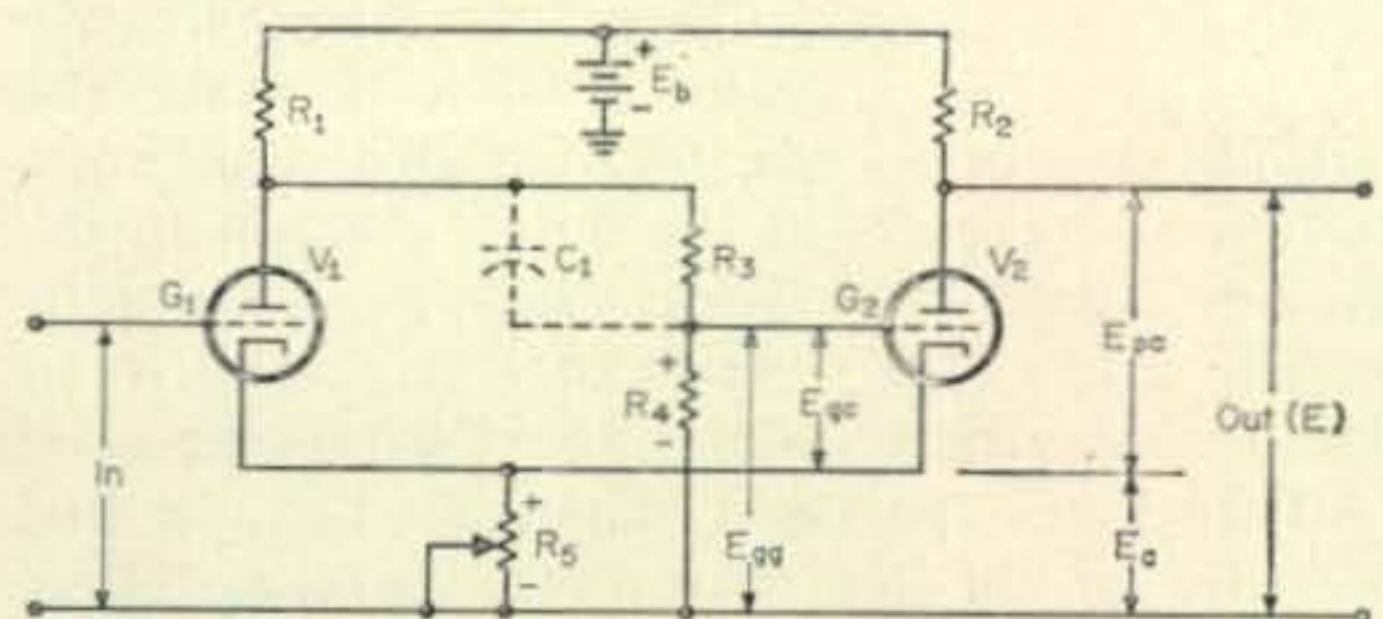
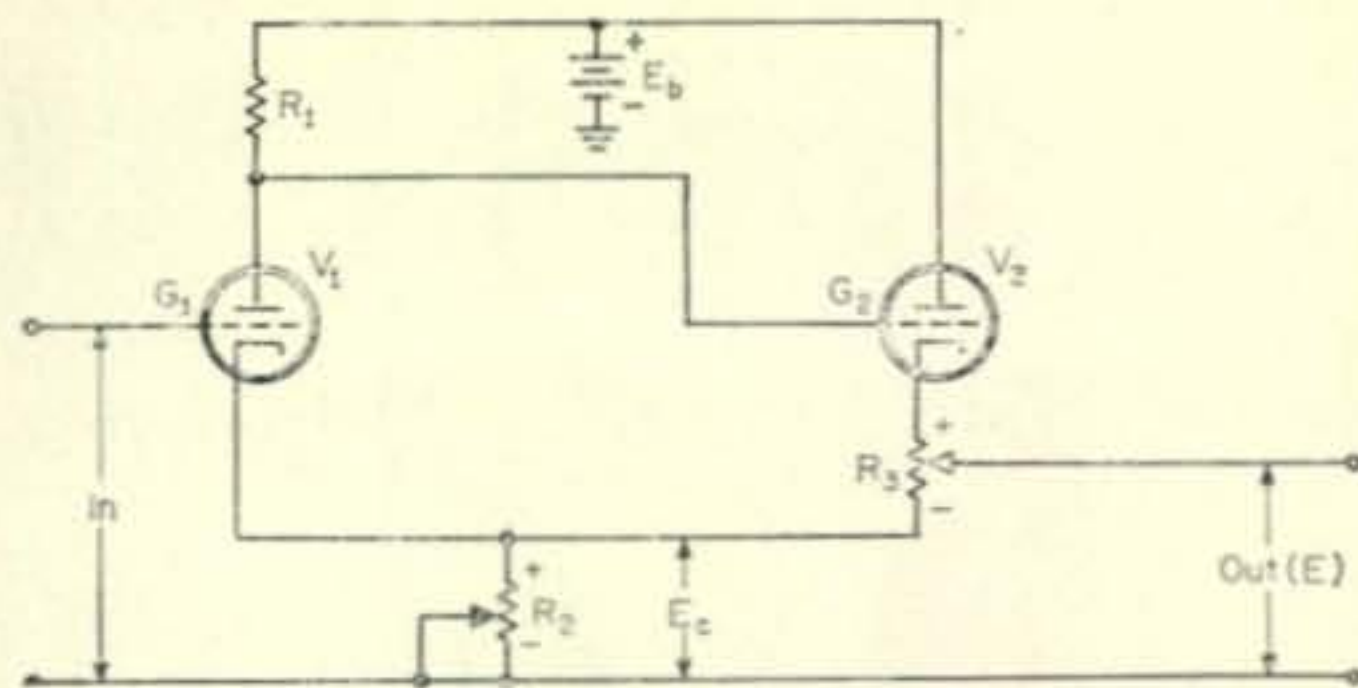

Fig. 96—A typical Schmitt trigger circuit. See text for operation. There are others depending upon circuit requirements.
Fig. 98—A Schmitt trigger circuit. Note the similarity of this to the Schmitt trigger circuit shown in fig. 95.
Essentially the Schmitt trigger circuit is a two-stage pulse-shaping circuit whose output has a rectangular waveform. The versatile Schmitt trigger circuit has many other applications, several of which can be combined in one two-stage circuit. The circuit is useful in squaring non-rectangular or sinusoidal waves, detection of d.c. levels, signal level shifting and wave-form restoration. A typical Schmitt trigger circuit is shown in fig. 96. There are other variations of this circuit, some of which will be covered in this discussion.
(through resistor R_3) is used in the Schmitt trigger circuit (fig. 96). Regeneration in the Schmitt trigger circuit is through the common and *unbypassed* cathode resistor R_5 to ground. Regeneration of the monostable circuit (fig. 93) is through plate-to-grid coupling capacitors C_1 and C_2 . The Schmitt trigger changes state the instant a triggering pulse is applied to its input and so does the monostable.
At this point they begin to differ. The Schmitt trigger state stays changed as long as the triggering pulse is present; the monostable may be triggered by an extremely short pulse and its state stays changed for a period of time as determined by the circuit time constant. The monostable can actually be used as a time delay circuit. The switching time of a Schmitt trigger can be considered as being practically instantaneous so far as the usual RTTY applications go. Its action time is a matter of a fraction of to a few microseconds, depending upon the circuit. The purpose of the dashed capacitor C_1 (fig. 96) is to speed up the circuit switching action, and is not usually needed for RTTY applications.
It was noted that the Eccles-Jordan flip-flop circuit, with a common input (figs. 94 and 95), operates from either a positive or negative pulse. The circuit of fig. 96 operates from a positive pulse but can be modified so that it requires a negative trigger pulse.
Let's review in detail exactly what took place in the Schmitt trigger circuit as graphically illustrated in fig. 97. Since a Schmitt trigger circuit is sensitive to the amplitude of the input signal, it is usually so designed that it will not trigger until a certain pre-determined input level is reached or exceeded. In this instance, the amplitude of teletype character R in (A) of fig. 97 indicates the pre-determined amplitude necessary to trigger the circuit. The practical way to vary the pre-determined input level is to make the cathode resistor R_5 (fig. 96) variable. The noise, (B), is also present at the input, along with the teletype signal (A). These two signals combine to give a resulting input signal (C). Any input signal above the pre-determined triggering level (A) saturates the input stage tube, V_1 , so that the tops of the waveform (C) have no effect on the output waveform (D). Neither does the noise, graphically shown between successive signal pulses (C), affect the output wave, since
Let us review, in detail, the cycle of action that takes place in the circuit of fig. 96, although its general function may be pretty obvious. The main point is that this or any other version of the Schmitt trigger circuit *should be so designed* that it does not end up as an ordinary switch *minus* the desired regenerative *switching action*. At the instant that power is applied to the circuit of fig. 96 there is a tendency for both tubes, V_1 and V_2 , to draw plate current even though no signal is present at the input. This current tends to build up a negative bias, E_c , for both tubes. A positive bias is applied to the grid G_2 of V_2 from the power supply voltage E_b , through the voltage divider formed by resistors R_1 , R_3 and R_4 .
Likewise, when the V_2 plate current is at its highest value, the circuit output voltage, E , is at its *lowest value* (due to the high voltage drop in resistor R_2). When an *a.c. signal* or a *positive d.c. signal* applied to the input of the circuit of fig. 96 equals or exceeds the pre-determined triggering level of the circuit, as previously noted, the circuit will trigger. The positive signal to the grid of V_1 counteracts the static negative bias from the cathode resistor R_5 and V_1 starts to draw plate current. The instant that V_1 starts to draw plate current the voltage drop across R_1 begins to increase rapidly, which in turn decreases the voltage E_{gg} and the positive bias voltage to V_2 . Voltage E_c stays about the same, since the plate current of V_2 is *decreasing* at the same time that the plate current of V_1 is *increasing*.
Figure 98 shows another configuration of the Schmitt trigger circuit. The output voltage of this circuit is just the reverse to that of fig. 96. The output voltage is *high* in the static (off position) and *low* in the triggered or on position. The output voltage E would be zero with V_2 at cutoff (on-position) were it not for the voltage E_c across R_2 due to the cathode current of V_1 . The operation of this circuit is basically the same as that of fig. 96, which was explained in detail. The value of R_1 in fig. 96 is usually in the order of $\frac{1}{3}$ megohm, while R_1 is in the order of 3 to 5 megohms in fig. 98.